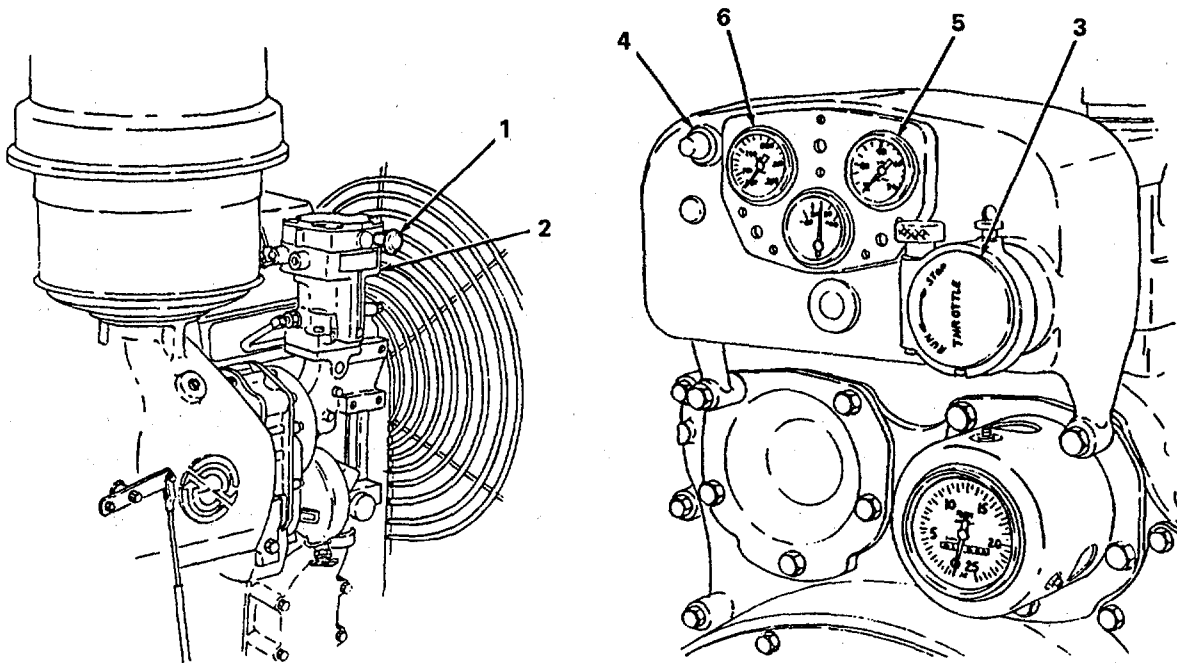

Figure 2-10. Engine Starting Sequence.
- (12) Refer to figure 2-10 and follow the starting sequence below to start the engine.
- (a) Pull fuel rod knob (1) on governor (2) all the way out to the wide open position.
- (b) Open THROTTLE (3) about 1/4 of the way by turning it approximately 90° counterclockwise.
- (c) Press STARTER button (4).
- (d) When engine starts, check OIL PRESS gage (5) for indication of lubricating oil pressure.
- (e) Observe WATER TEMP gage (6). Do not apply load until water temperature reaches 160°F (71.1°C).